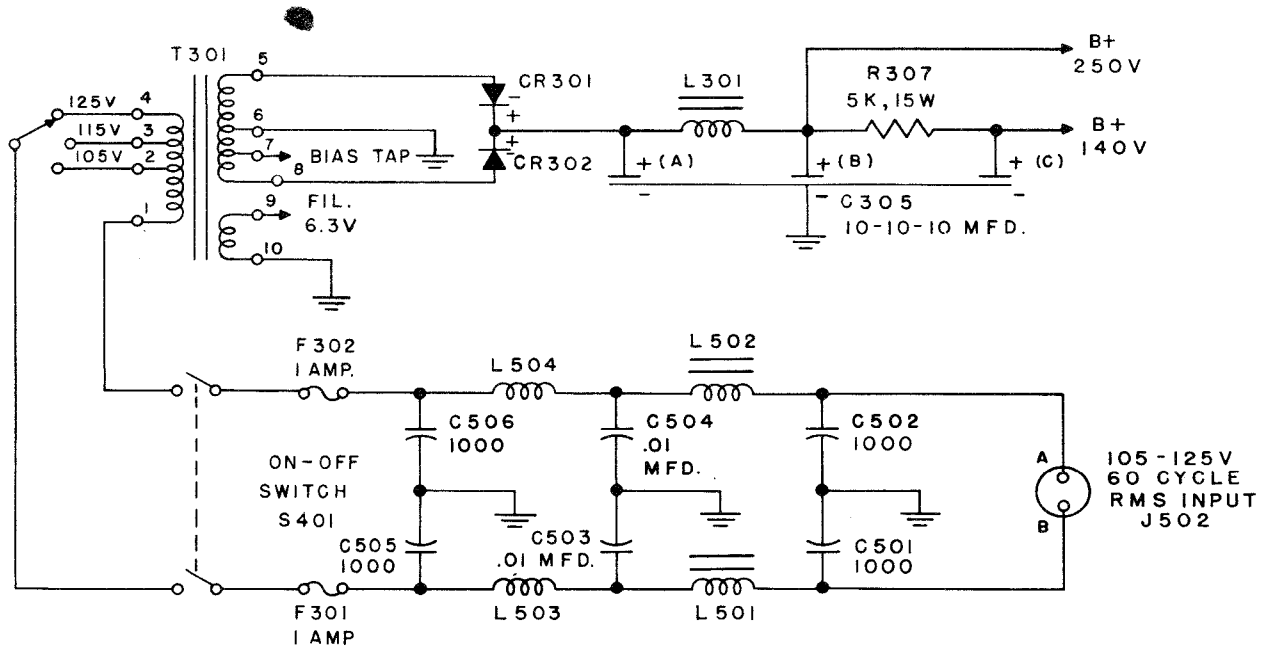

Figure 2-22. Simplified Schematic, High Voltage and Filament Supply
(2) POWER SUPPLY.—As shown in the simplified schematic, figure 2-22, the power supply consists of a full-wave rectifying system, using selenium rectifiers and provides for multi-tap selection of the AC voltage source. A two-pin POWER receptacle (J502), located on the rear compartment, provides connection to the AC power source. Both sides of the AC line pass through an RF filter system, located in the rear compartment. This filter is composed of two sections, the first section consisting of C501, C502, L501, L502, C503 and C504. This section will attenuate signals in the range of 200 Kc to 8 Mc. The second section, composed of L503, L504, C505 and C506 will attenuate signals above 8 Mc. Both sides of the AC line then pass through two fuses F301 and F302, which are 1 amp 3 AG slow-blow fuses. Slow-blow fuses are used to prevent current surges from opening the fuses if an intermittent connection is made to the power source. The AC line then passes through the double pole single throw POWER switch (S401) which is mounted on the front panel. The AC line then connects to the primary of the transformer T301 through a single pole three position switchable link which is mounted on TB301, located on the under side of the power supply chassis. This switch is used to select one of the three taps of the primary of T301, which are labeled 105 volts, 115 volts and 125 volts. The voltage of the AC power supply should be measured and the appropriate tap selected. The power transformer T301 has two secondaries, one of which supplies 6.3 volts AC to the filaments of all of the tubes in the receiver. The